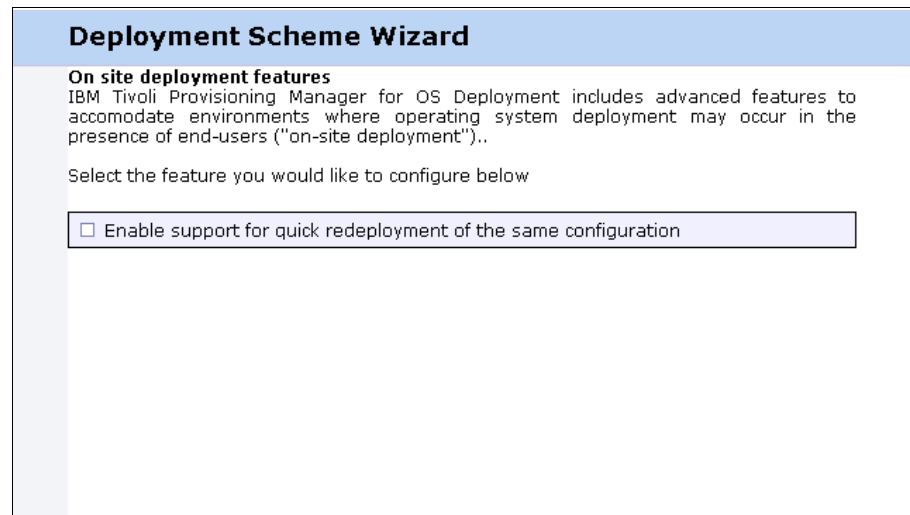

Figure 2-43 Optional selection of redeployment feature
- Next, we select the on-site redeployment features for the deployment scheme. In this scenario we take the default as shown in Figure 2-43. Redeployments are discussed in Chapter 4, “Redeployment scenarios” on page 83.